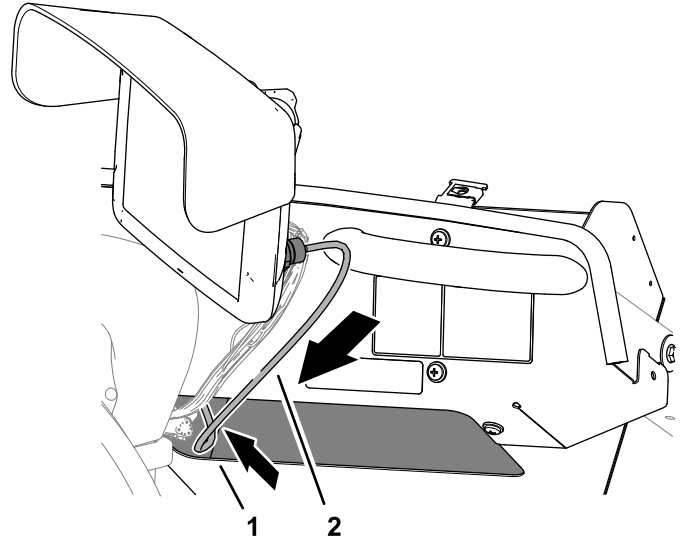

Figure 159
1. Route the modem data cable through the storage compartment (Figure 159).